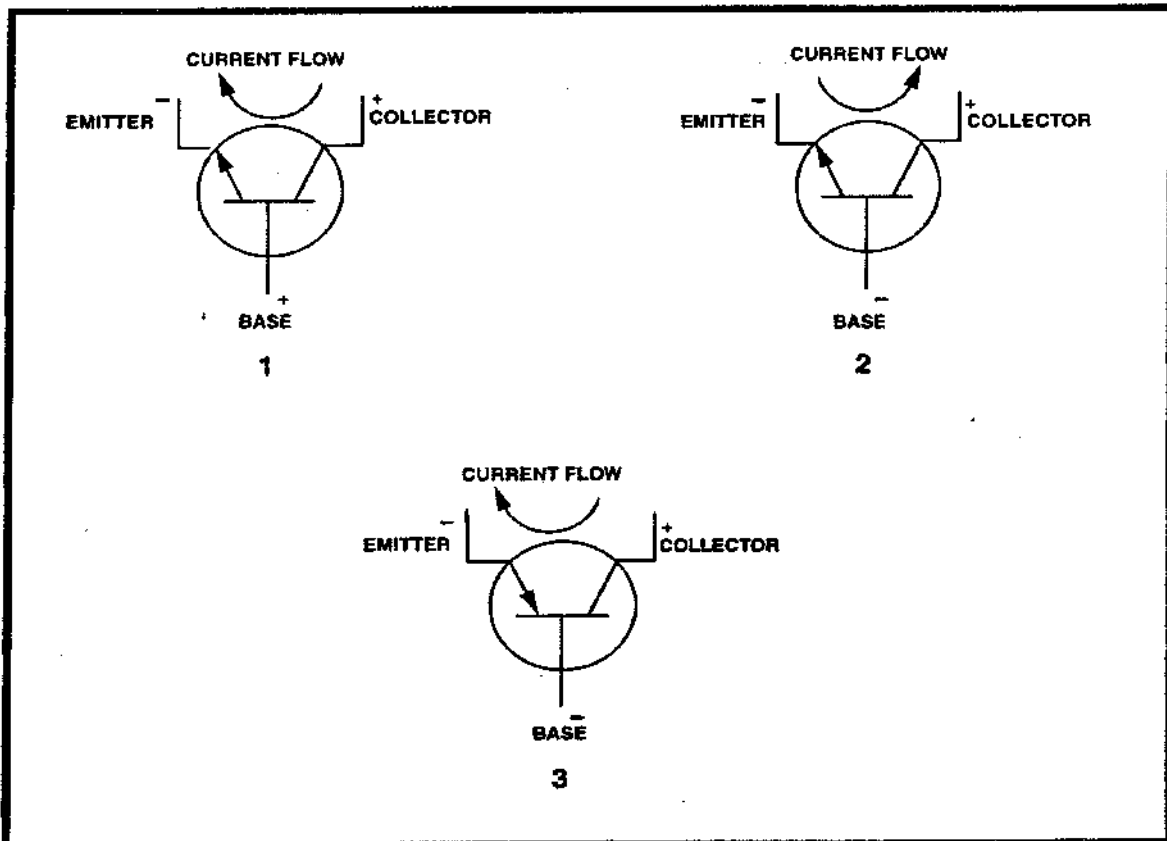

Fig. 9.13. Transistors.
- 83. (Refer to figure 9.13) Which illustration is correct concerning bias application and current flow ?